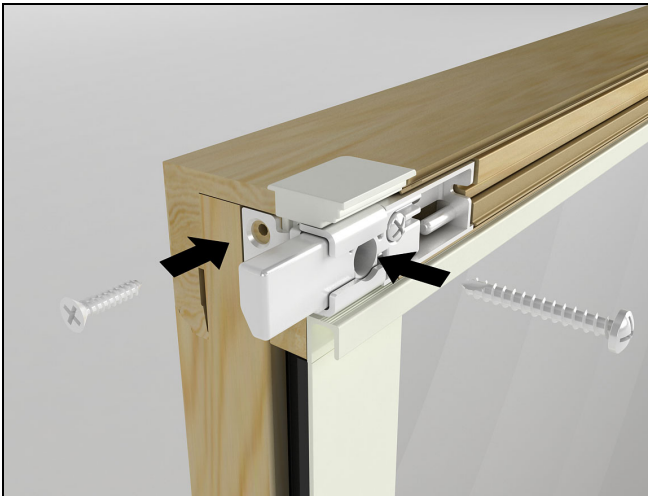

Figure 8
5. Remove the jig and clean debris and excess material by the foam pad. Install the bottom check rail bumper under the locking bolts and fasten screws. See Figure 8.